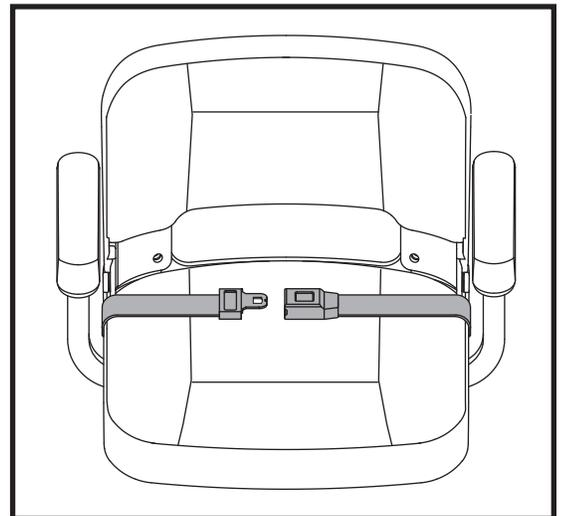

Figure 15. Positioning Belt - Metal Tab Style
1. Insert the metal tab on the right side of the belt into the plastic housing on the opposite strap until you hear a “click.” See figure 15.